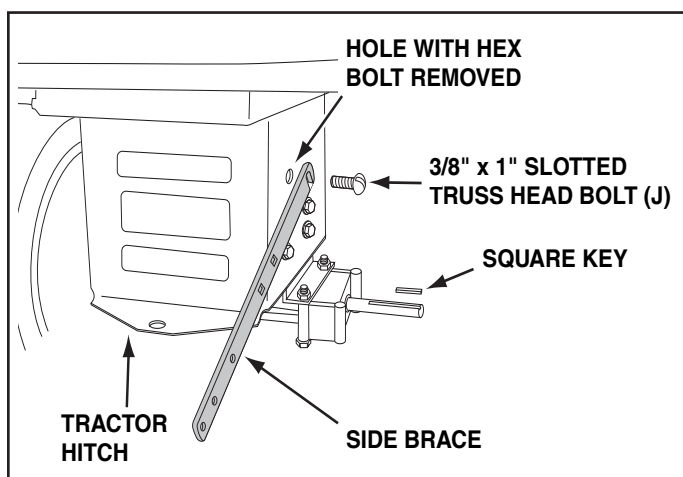

FIGURE 61
STEP 63: (SEE FIGURE 61)
- Remove the hex bolt from the top hole in the side of the tractor frame. If no bolt is present and the hole is unthreaded, screw a 3/8" x 3/4" self threading bolt (H) into and out of the hole to create threads.
- Assemble the notched end of each side brace to the top hole in the each side of the tractor frame, using a 3/8-16 x 1" slotted truss head bolt (J) for each brace.